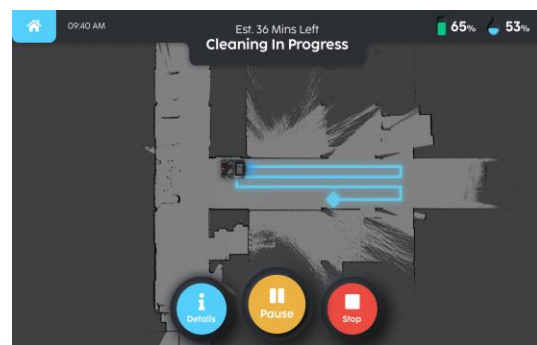

FIGURE 5-9
4. The robot shall start the cleaning operation, the operator may pause or stop the cleaning at anytime (Fig 5.9)